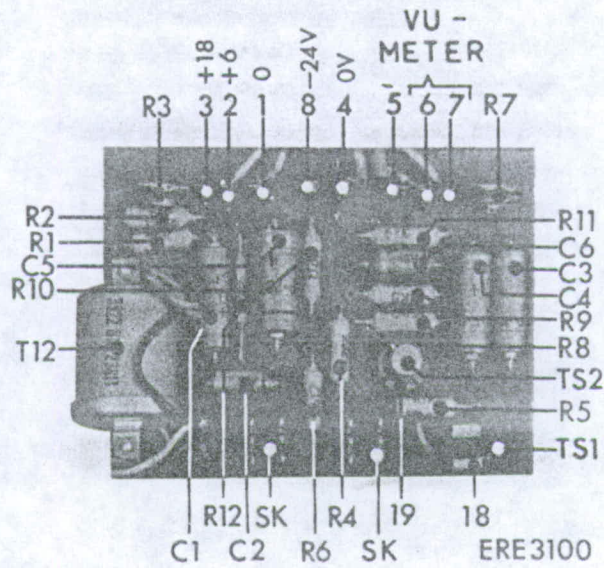

Fig. 12
- . Connect points 1 and 2 to a signal generator (see Fig. 12).